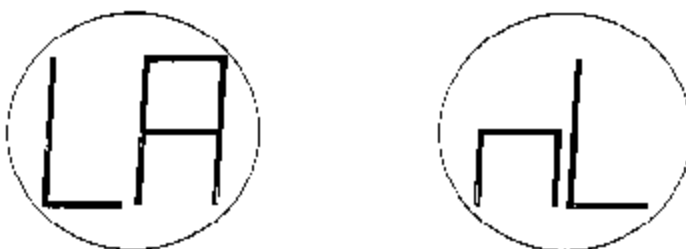

figure 20
- The display will alternate between "LA" and "nL" (figure 20), until the magnet is re-applied. Apply and remove the magnet when the desired option appears on the display. "LA" stands for Latching and "nL" stands for Non-Latching. When this selection has been made, the next option will appear.
- The Latching/Non-Latching option for the Alarm relay will be displayed as in figure 20.